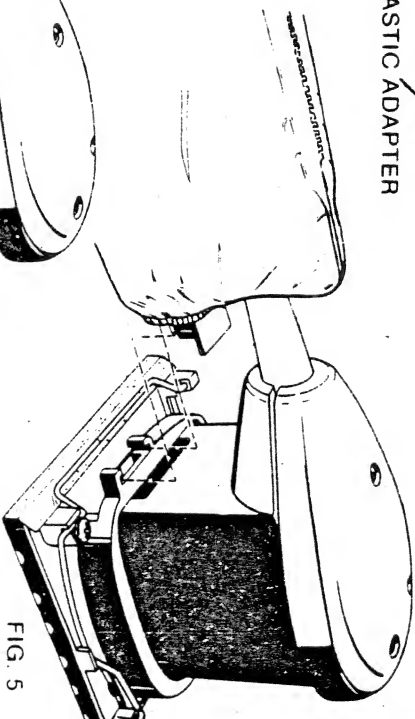

FIG. 5
3. Slide assembly into opening located on the cord set side of the sander. (Fig 5)